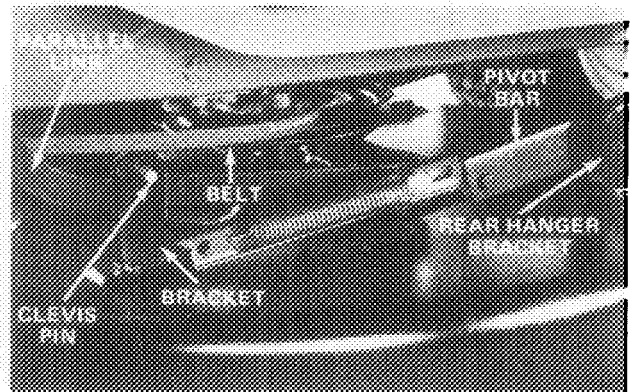

Figure 28
4. Slip the cutting unit drive belt around the spindle drive pulley, then lift the rear of the cutting unit and position the rear hanger brackets so they just rest over the top of the pins extending out from the pivot bar (Fig. 28). Insure belt is installed on front engine pulley.